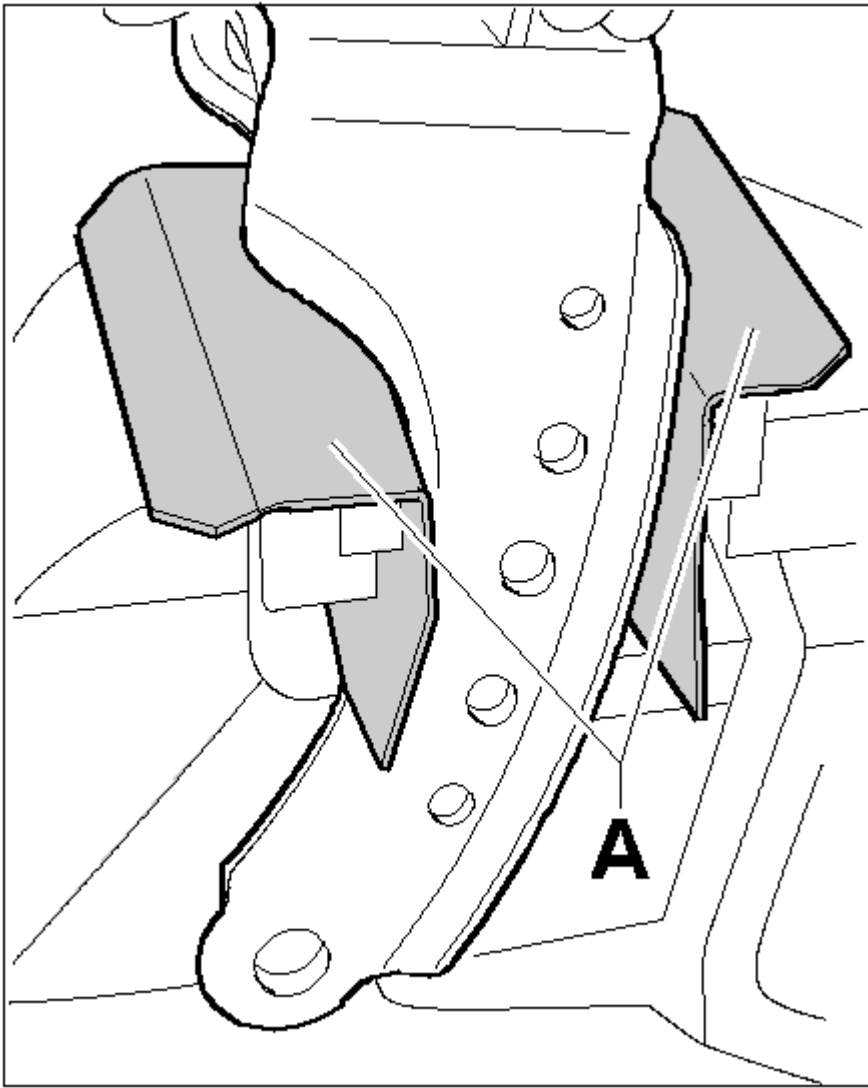

Fig. 37: Lower mounting point for air-spring strut
1. Clamp the air-spring strut on the lower mounting point (use aluminum protective jaws -A- !). See **Fig. 37**.